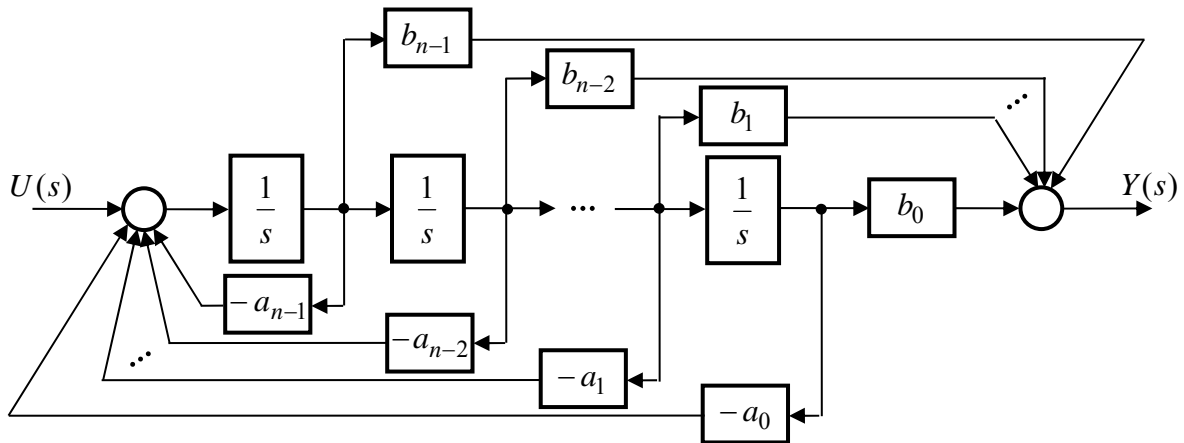

Figure 4. State diagram depicting direct decomposition of a transfer function.
The state diagram of the direct decomposition (i.e. (3) and (5)) is depicted in Figure 4. Notice that direct decomposition used summers and integrators to represent the system transfer function.